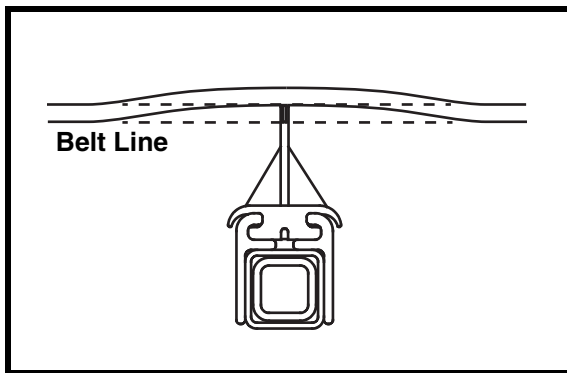

Figure 6a. Cleaner Changing Belt Line
6. Make sure cleaner is not changing belt line (Figure 6a). If it is, install belt support ahead of blade-to-belt contact point (Figure 6b).